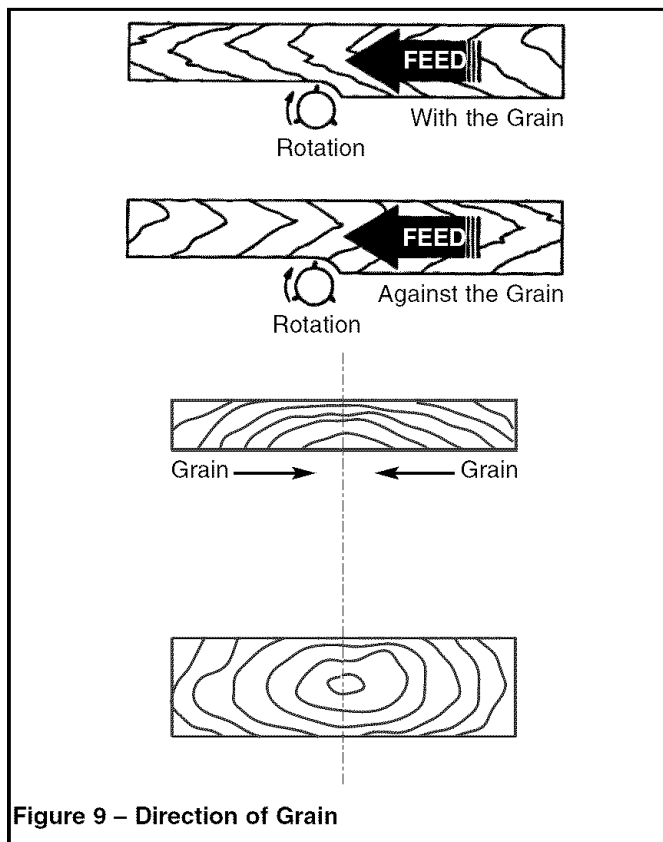

Figure 9 – Direction of Grain
- Feed work along the grain direction. Wood fed against the grain will result in chipped and splintered edges. Sometimes grain will switch direction in the middle of a length of board. If possible, cut board before planing (See Figure 9).